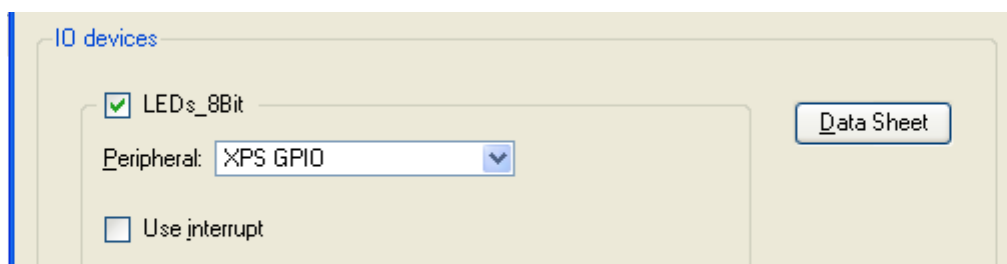

Figure 1-9. Configure XPS GPIO
- LEDs_8Bit: XPS GPIO. No interrupt (**Figure 1-9**)